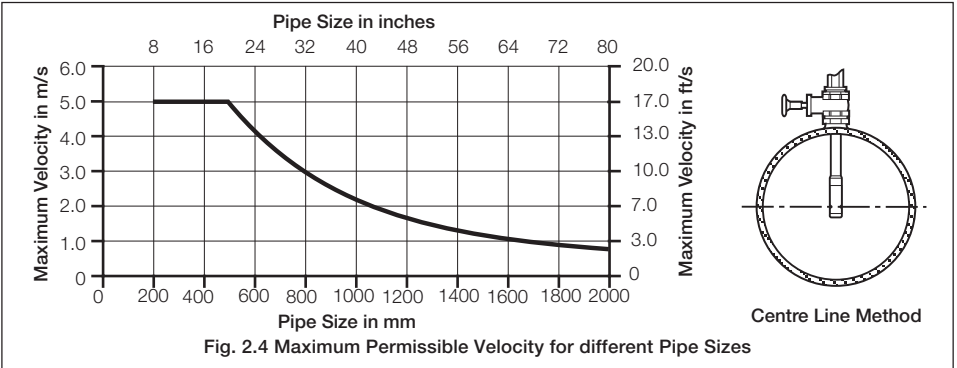

Fig. 2.4 Maximum Permissible Velocity for different Pipe Sizes
2.2.2 Velocity Limitations – Figs. 2.4 to 2.6